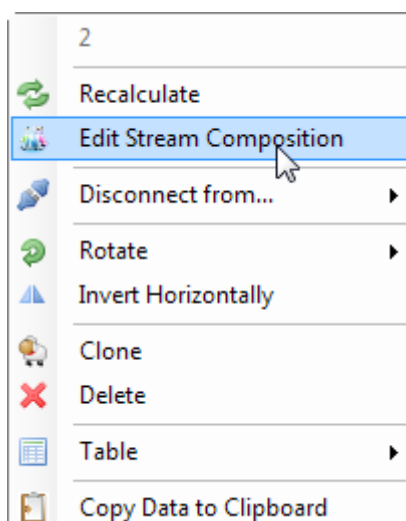

Figure 14: Selected object context menu.
- Through the context menu activated with a right mouse button click over the object (Figure 14);
Removing objects from the flowsheet The selected object can be removed from the flowsheet by pressing the DEL keyboard button or by using the context menu - "Delete" item (Figure 14).